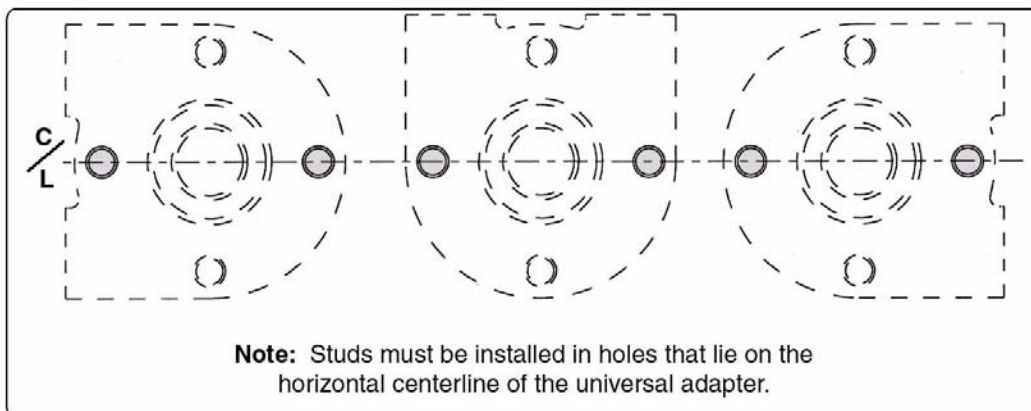

Figure 3-8: Universal Mount Adapter Positions
4. Select the proper mounting adapter orientation and using the $\frac{7}{16}$ " 14 x 1.0" screws attach the universal mounting adapter to the apparatus. (See Figure 3-8: "Universal Mount Adapter Positions.")
5. Apply a light coat of thread locking compound (Loctite #290 or equivalent) to one end of the $\frac{7}{16}$ " 14 x 1-3/4" studs. Install the studs in the horizontal holes on the universal adapter. (See Figure 3-8: "Universal Mount Adapter Positions.")